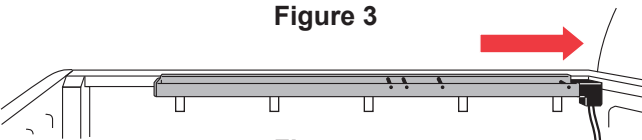

Figure 4
- a) Position tonneau side rail on truck bed. (Fig. 4)